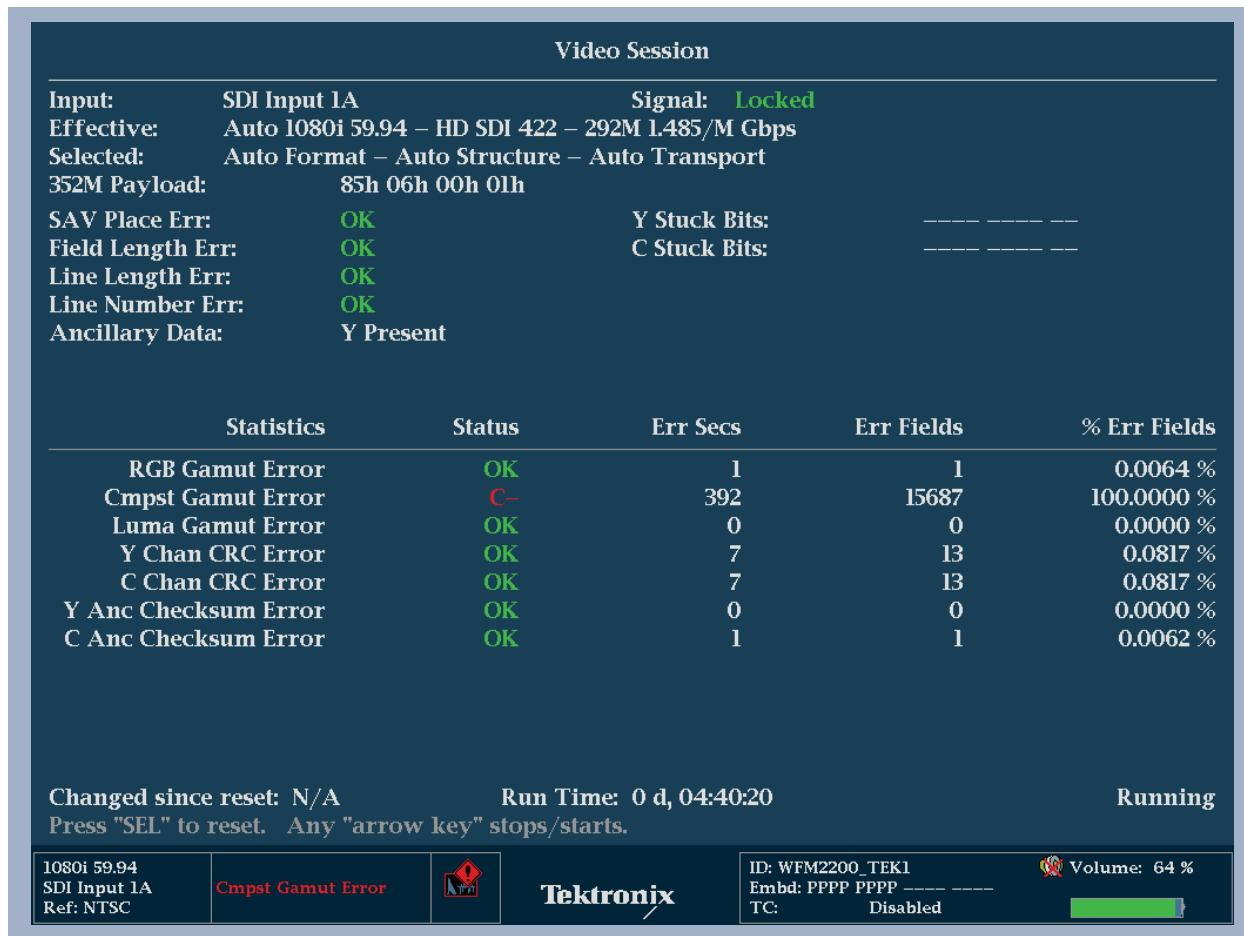

Figure 6. Video Session display.
1. Push and hold the **STATUS** button to display the menu as shown in Figure 6.
The video session display provides information on the input format along with SAV Place Err, Field Length Err, Line Length and CRC errors as shown in Figure 6. If this status information is shown in Green then there are no errors present in the signal format. If they are shown in red this indicates a current error with the signal and if they are shown in yellow this indicates an error had occurred previously in the signal.